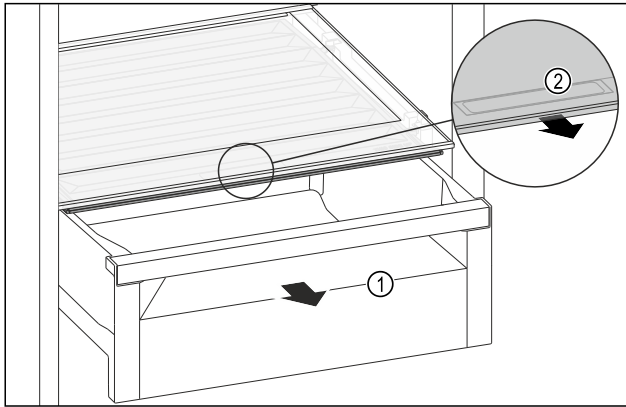

Fig. 155
- ▶ Pull out the drawer Fig. 155 (1).
- ▶ Grasp the recessed grip Fig. 155 (2) on the compartment lid and pull the compartment lid forwards at the same time.